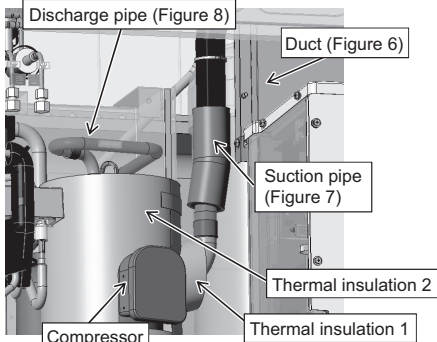

Figure 5
- (5) Remove thermal insulation 1 and thermal insulation 2. (See Figure 5.)